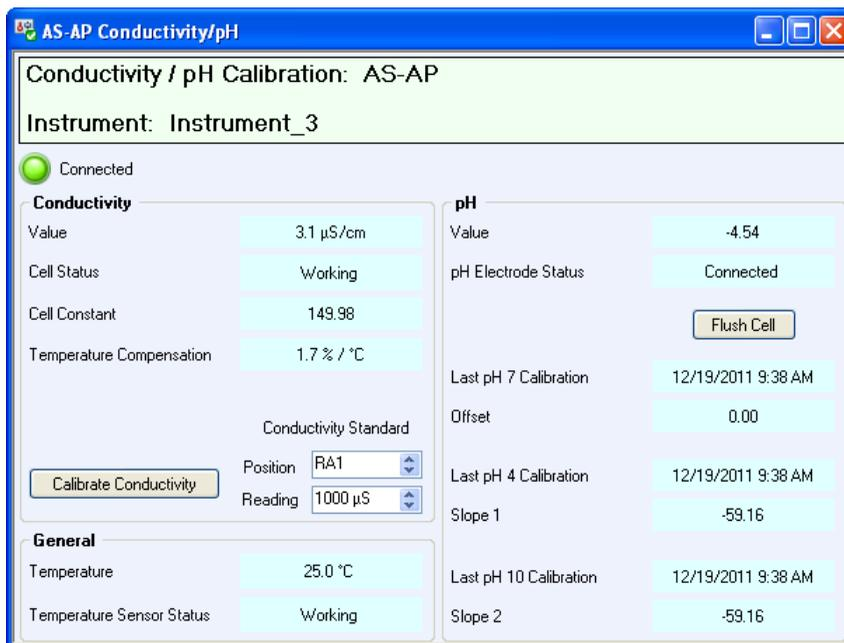

Figure 37. Chromeleon 7 Conductivity/pH ePanel
2. In Chromeleon 7, on the autosampler ePanel, click the **Conductivity/pH** button to open the **AS-AP Conductivity/pH** ePanel (see Figure 37).